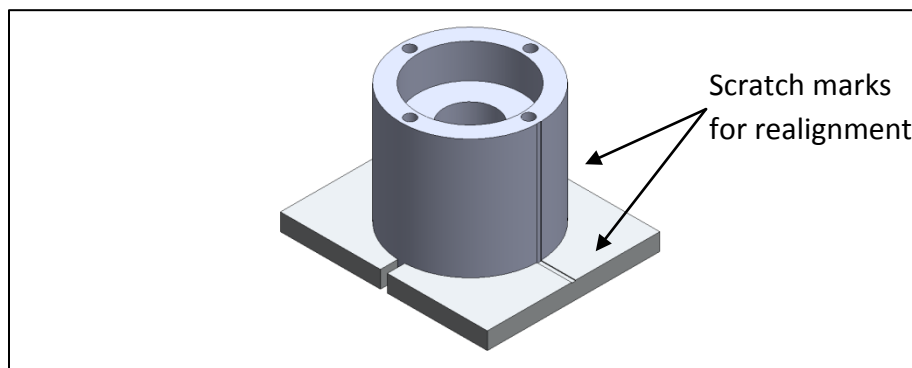

Figure 2.2 – Circular part and fixture with grooves for realignment
- Tabs or marks for realigning parts if they are going to be placed back in a machine for post machining operations. This is often the case when the part needs holes aligned to each other from both ends. Another reason for alignment marks would be or if the part needs to be oriented in a specific rotational angle at assembly time. (See Figure 2.2).